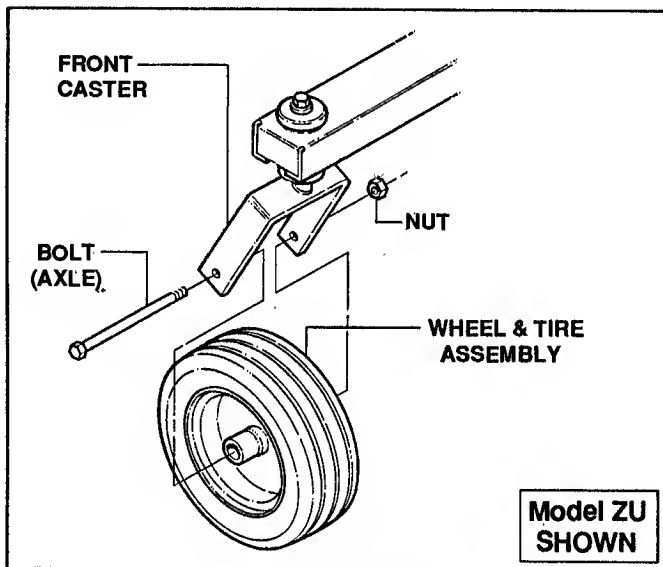

FIGURE 5.1
- B. Remove nut and bolt as shown in Figure 5.1.